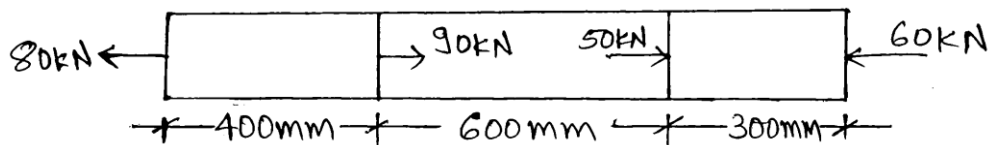

Fig.1
- (b) Calculate change in length of the bar as shown in Fig.1 Take $E = 2 \times 10^5$ **03**